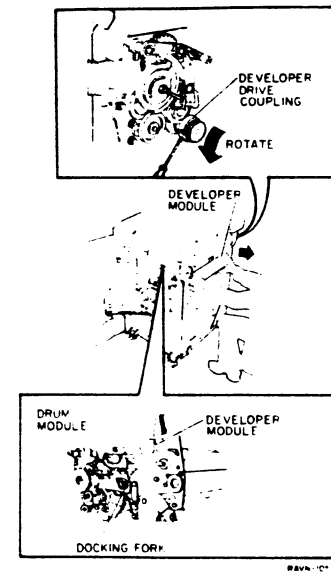

Figure 2. Removing/Installing the Developer Module
4. TURN DRIVE COUPLING UNTIL SLOT IN COUPLING IS PARALLEL TO FLOOR (FIGURE 2).